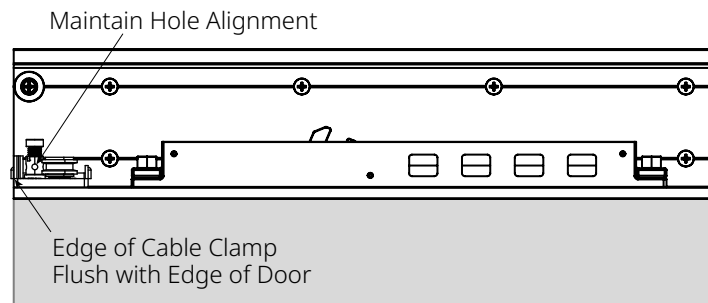

Figure 9
- Maintain hole alignment as shown in **Figure 9** to assist with inserting cable in the next step.